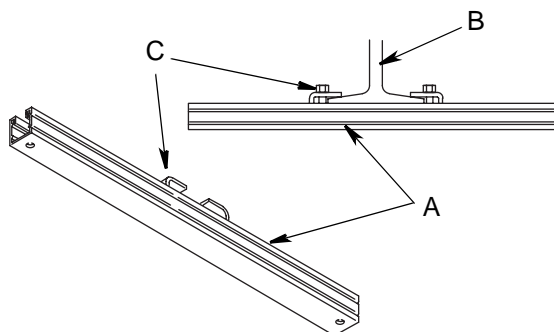

FIG. 26
For the following Steps, refer to FIG. 26.
7. Line up the 4 holes on the hose reel mounting base with the holes near the ends of the mounting brackets (A) (FIG. 26) and securely bolt the hose reel to the mounting brackets.
9. Position adjustable clamps (C) of the mounting brackets on the flanges of the I-beam (B) (FIG. 26). Securely tighten clamps to 10 ft. lbs (13.5 N.m).